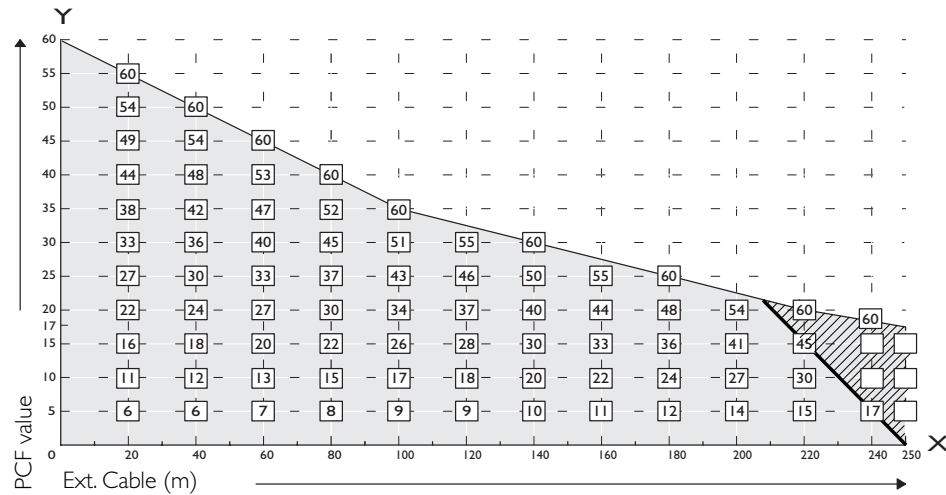

FIG 10-10 Graph for calculating the PCF value of a system including extension cable length correction
- Using the PCF table (Table 10.1) and the graph (FIG 10-10) calculate the PCF value required for the system. If the PCF value exceeds 60, then more than one of the CCU's Trunk outlets must be used.
1. Using the graph shown (FIG 10-10) check that each trunk-line in use is within the approved system limits (i.e. within the grey shaded area).
FIG 10-12 in combination with the PCF graph (FIG 10-10) gives examples of how to calculate the PCF value of a single trunk-outlet. Using these examples, the total PCF value of all three trunk-outlets of a CCU can be calculated.